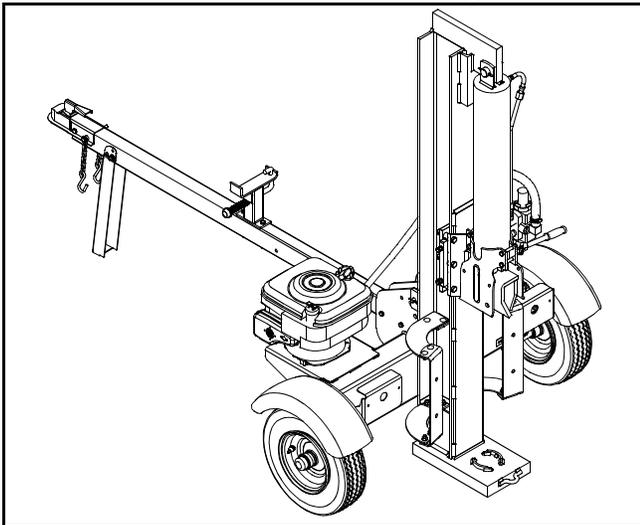

Figure 13
- To lock the beam in the vertical position, pull out on the vertical beam lock and pivot it to secure the beam. See Figure 13.